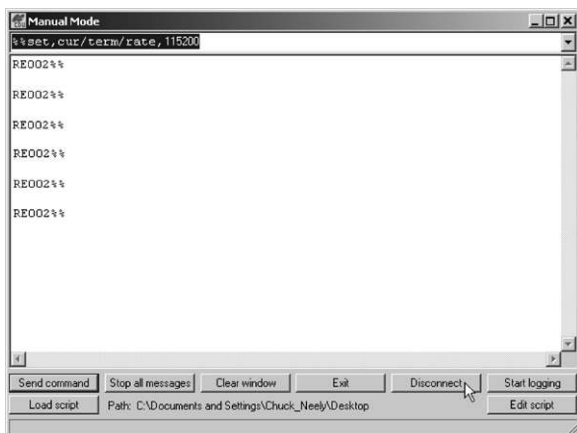

Figure 2-31. Manual Mode Command Responses
17. On the Manual Mode screen, write the following commands, pressing **Enter** (or clicking **Send command**) after each command. When finished, you should have six responses (Figure 2-31 on page 2-28).